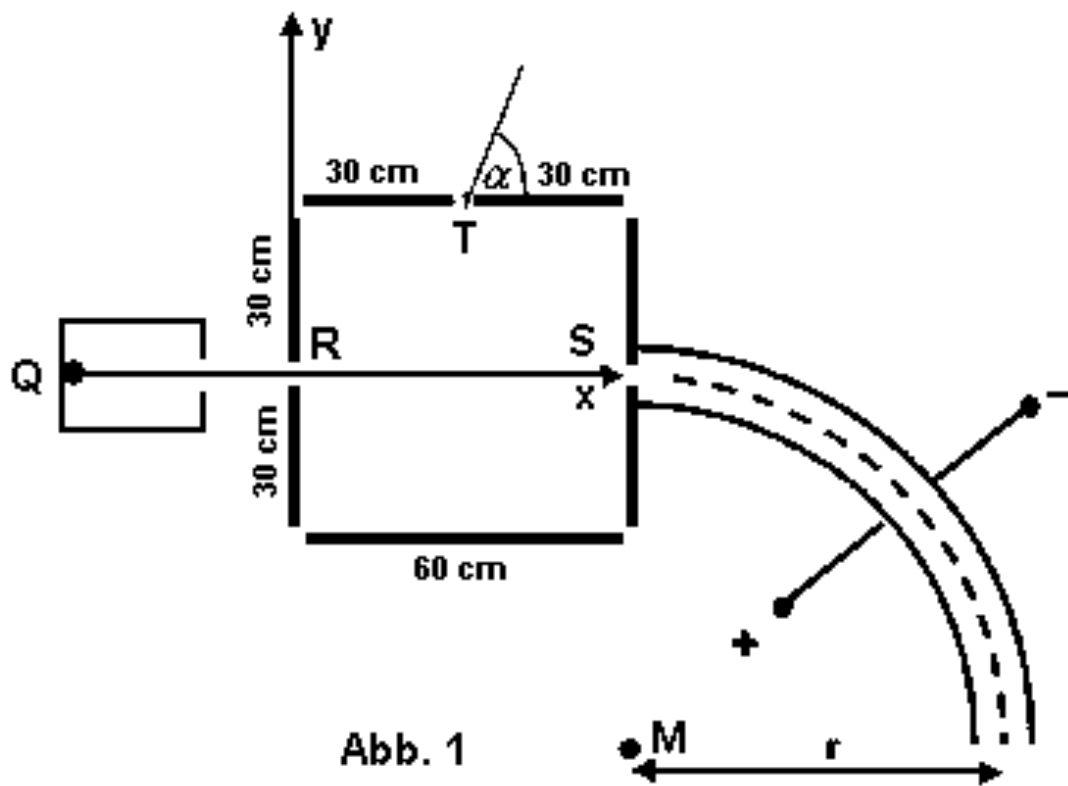

Figure 1: Wien Filter
In the experimental setup shown in Figure 1, a source at Q emits electrons by thermionic emission from a heated filament. At point R, the electrons shall have a velocity of $v_0 = 4 \times 10^7$ m/s along the x-axis and enter the face centre of a cubic box. The edges of the box are 0.6 m long each. The sidewalls are formed by metal plates, which are electrically isolated against each other. There is a small hole in some of the plates (at the points R,S,T indicated in the sketch above). Inside the box homogeneous magnetic and electrical fields can be generated such that their respective field lines are parallel to the edges of the box. The whole experiment is set-up in vacuum.
- (2p) **1a.** Calculate the electric potential required to accelerate the electrons from rest to v_0 (from Q to R in Figure 1).
- (4p) **1f.** The electrons leave the cube in S again having a velocity v_0 . They then enter a circularly curved condenser (see figure 1). The electrical field strength is such that the electrons follow the dashed line. The field strength on the trace is 6.0 kV/m. Calculate the radius of curvature.